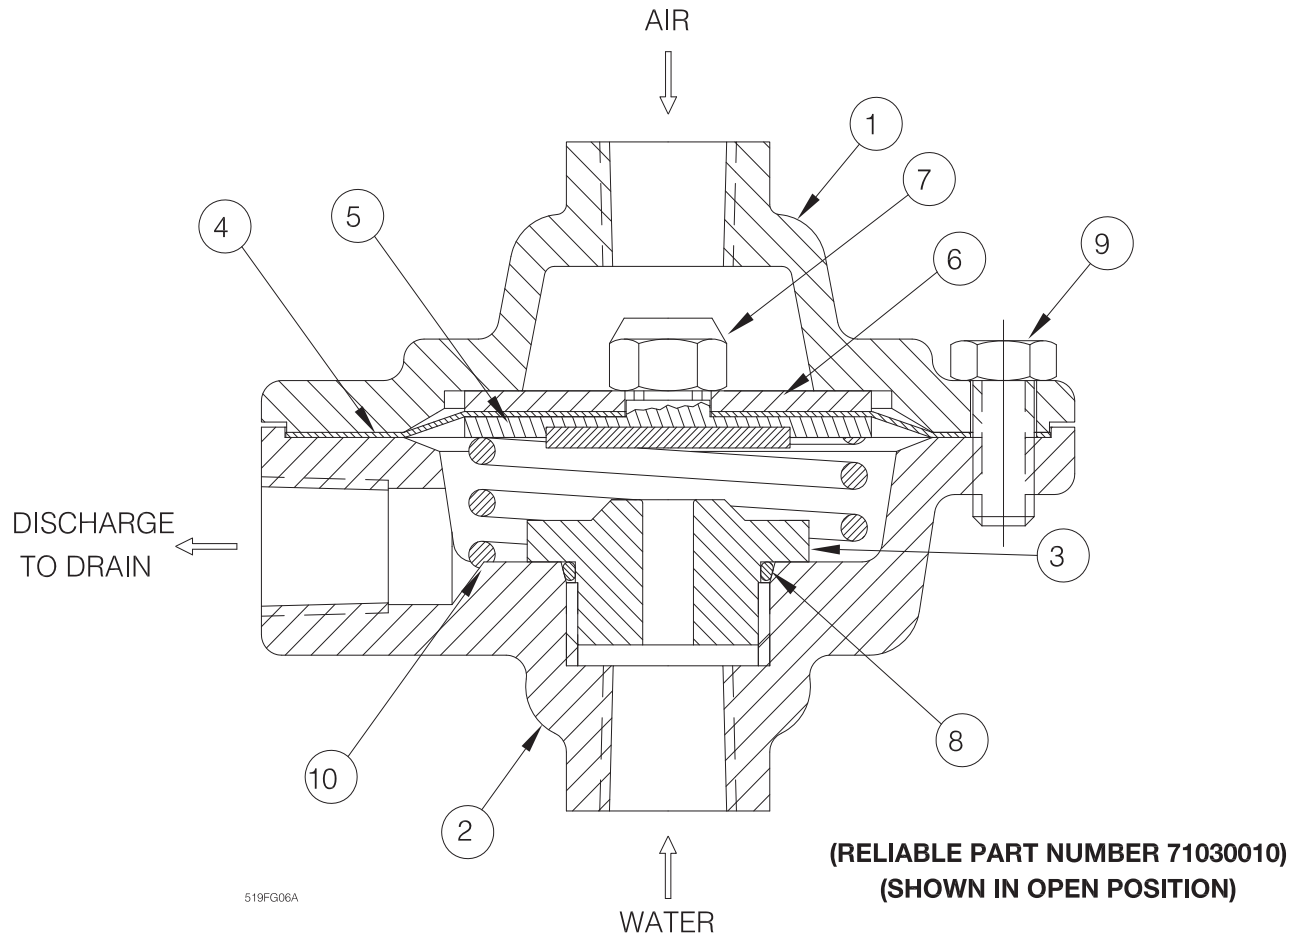

Fig. 11
Refer to Figs. 11 & 15
3. Remove all six bolts (#9, Fig. 11) holding the Actuator together. Clean or replace the facing plate assembly (#5, Fig. 11) and seat (#3, Fig. 11).
4. Reassemble the Actuator, using a torque of 8 ft-lbs on the facing plate nut (#7, Fig. 11) and 12 ft-lbs on the six bolts (#9, Fig. 11). Use a cross-tightening pattern. Reinstall the Actuator. Set up the Model DDX Deluge Valve as per the section "Resetting Model DDX Deluge Valve System".